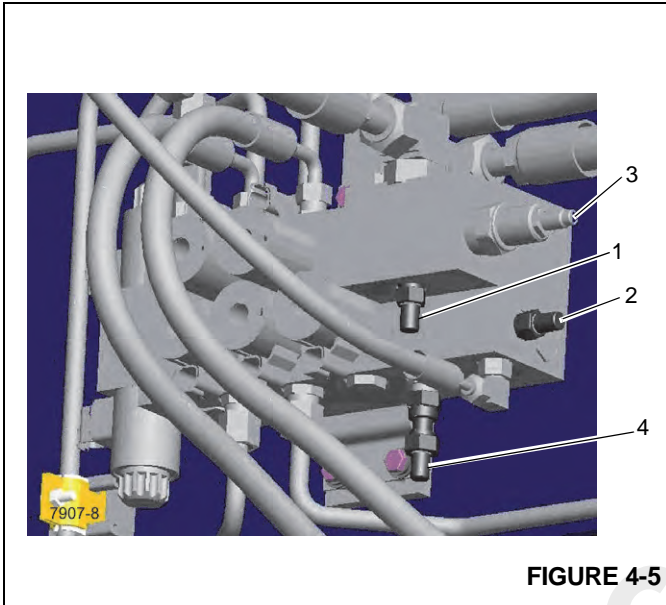

FIGURE 4-5
1. With the engine shut off, install pressure check diagnostic quick disconnect (Parker PD240) with gauge onto test nipple @ the G1 port (1, Figure 4-5).
1. With the engine shut off, & pressure check diagnostic quick disconnect (Parker PD240) with gauge still installed on test nipple @ the G1 port (1, Figure 4-5).
1. Install a 0 - 344.73 bar (0-5000 psi) pressure gauge on the load sense test port GLS (2, Figure 4-5) located on the front outrigger manifold.
1. Shut off the engine. Install a 0 - 344.73 bar (0-5000 psi) pressure gauge to the front outrigger manifold test point G2 (4, Figure 4-5).
- a. Loosen the jam nut on the outrigger relief valve (3, Figure 4-5) at the front of the machine on the front outrigger housing weldment.
1. With engine shutdown install pressure check diagnostic quick disconnect (Parker PD240) with gauge onto load sense test port the GLS port (2, Figure 4-5) located on the front outrigger manifold.